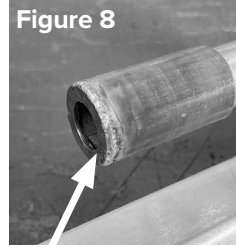

Figure 7
7. Once the glass media burner has been removed, locate the Logset burner included in the kit LGS-16 as shown below in **Figure 7**.